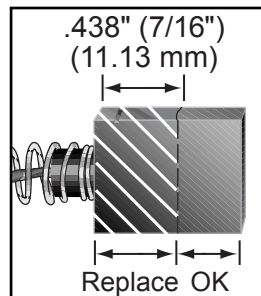

Figure 2
- B.** Inspect the brushes for signs of excessive wear or cracks. The motor brushes must be replaced if one or both is worn to .438" (7/16"/11.13mm) or less in length, is broken or chipped, has a broken spring, or binds in the motor. See Figure 2.